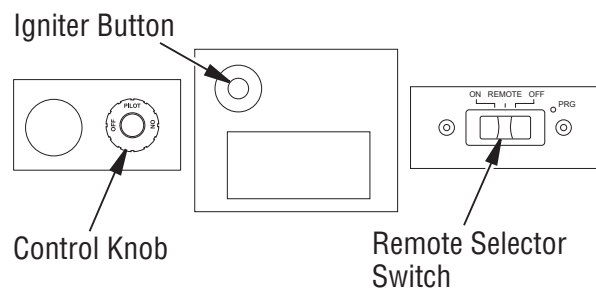

Figure 32 - Remote Selector Switch, Control Knob and Igniter Button
3. Set remote selector switch in the AUTO position (see **Figure 32**).
4. Press in and turn control knob clockwise  to the OFF position (see **Figure 32**).
5. Wait five (5) minutes to clear out any gas. Then smell for gas, including near the floor. If you smell gas, STOP! Follow "B" in the safety information on column 1 of this Page. If you don't smell gas, go to the next step.
6. Press in and turn control knob counterclockwise  to the PILOT position. Press in control knob for five (5) seconds (see **Figure 32**).
1. Press on/off key on remote control and turn control knob clockwise  to the OFF position (see Figure 32, Page 18).
When batteries in receiver are low, no acoustic signal will be given when ON/OFF button is pressed. If batteries in receiver are low, fireplace can be switched on manually by moving remote selector switch to ON (see Figure 32, Page 18).